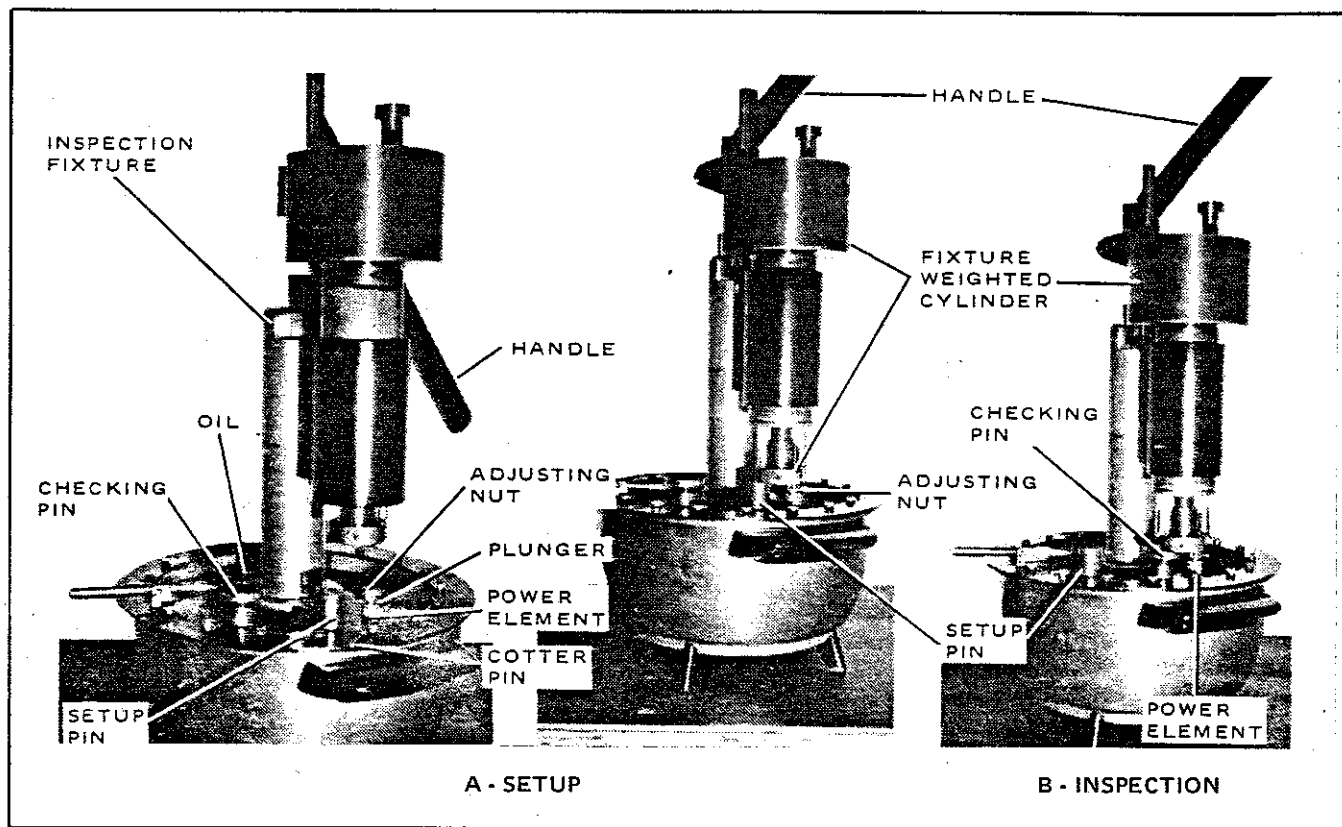

Figure 6-2. Shuttle Power Element Inspection
- (1) Use a suitable container (with controlled heating capability) of clean compressor oil with sufficient quantity of oil to immerse the sensing end of the power element in a holding device. Remove cotter pin from adjusting nut and place the power element, with plunger and nut, in holding fixture (sensing end of power element in the oil). See figure 6-2 for a typical setup.
- (2) Place setup pin (2.000 inches (50.800 mm) long) next to test element, lower weighted cylinder (15 pounds (6.804 kg) onto setup pin. Turn adjusting nut until it just touches the weighted cylinder. Raise cylinder and install cotter pin through nut and plunger, turning nut only enough to align cotter pin holes. Remove setup pin and replace with checking pin (2.021 inches (51.333 mm) long). Lower weighted cylinder onto checking pin.
- (3) Heat the container of oil and observe the action of plunger and nut. The plunger should begin to raise when temperature of oil reaches 150°F (66°C). When nut reaches the weighted cylinder, the element and plunger action will raise weighted cylinder off checking pin. At 185°F (85°C), piston will have reached travel maximum. Travel range is 0.140 to 0.170-inch (3.556 to 4.318 mm) in temperature range of 150°F to 185°F (66°C to 85°C).